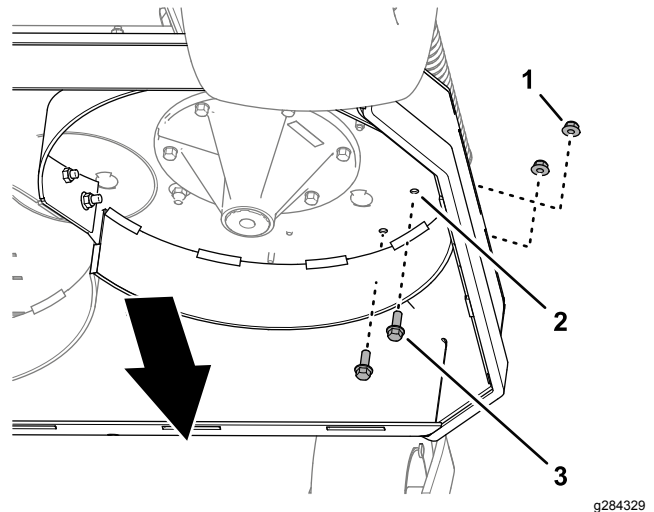

Figure 8
2. Install 2 flange-head capscrews (3/8 x 1 inch) into the 10 mm (3/8 inch) holes in the mower deck (Figure 8) and secure the capscrews with 2 flange locknuts (3/8 inch) that you removed in step 1.